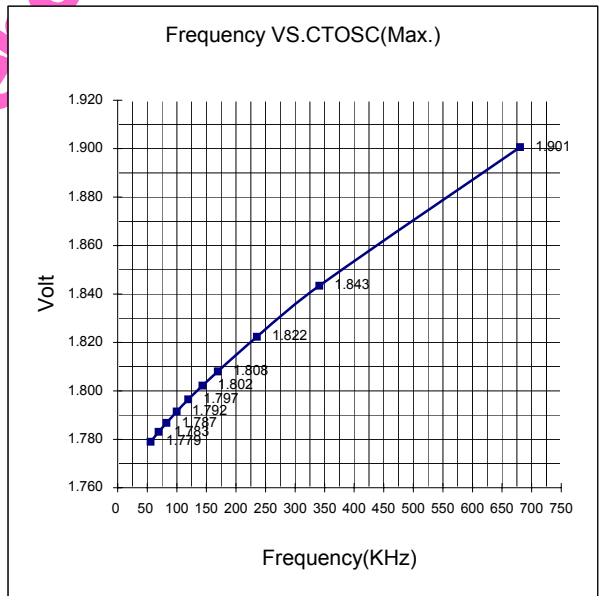

Fig. 4
To connect a resistor between SDTC and GND to fix the voltage of SDTC pin may limit the maximum duty cycle of the PWM controller. The maximum voltage of CTOSC is varied with the operation frequency (Fig.4). Please use a larger resistor to define the maximum duty cycle when operation frequency is higher. Maximum duty cycle may be determined by (2):